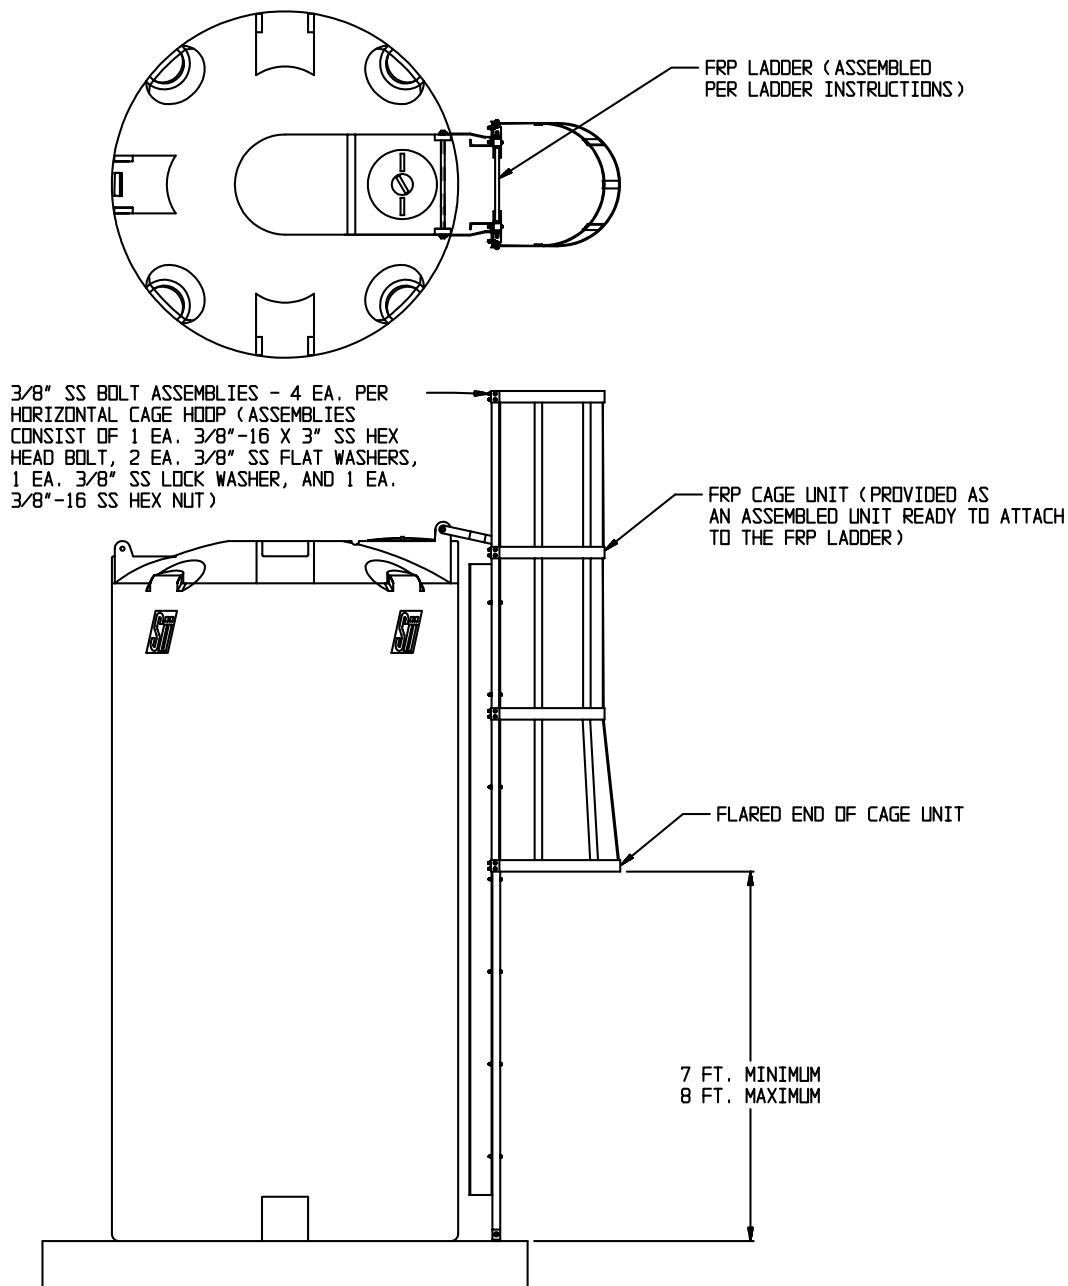

Figure 8.7
8.7.1 Using the assembly drawing shown in Figure 8.7 and the instructions in section 8.7.2, verify that the correct number of fasteners have been shipped to attach the FRP cage unit. These cages are designed for use only with the SIERRA FRP ladder design. Cages are required for ladders used to ascend to heights exceeding 20 ft.